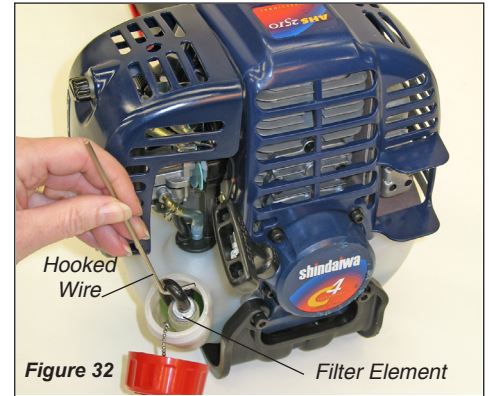

Figure 32
- Use a wire hook to extract the fuel filter from inside the fuel tank (Figure 32). Inspect the fuel filter element. If it shows signs of contamination from debris, replace it with a genuine Shindaiwa replacement fuel filter element. Before reinstalling the filter, inspect the fuel line. If you discover damage or deterioration, the unit should be removed from service until it can be inspected by a Shindaiwa-trained service technician.